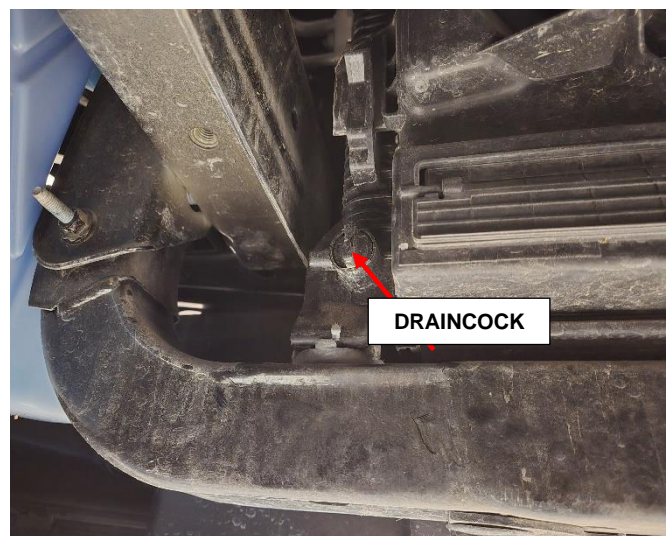

Figure 7 - Draincock
6. Attach a hose to the radiator draincock fitting and loosen the radiator draincock valve (Figure 7).